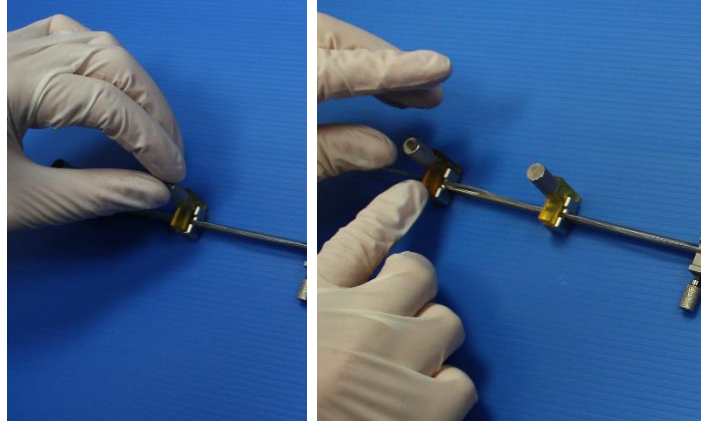

Figure 113: Locking the Clamps onto the DBS
8. On the DBS holder, while slightly pushing the DBS electrode downward, lock the clamps onto the DBS electrode, to hold the DBS electrode in place (Figure 113).